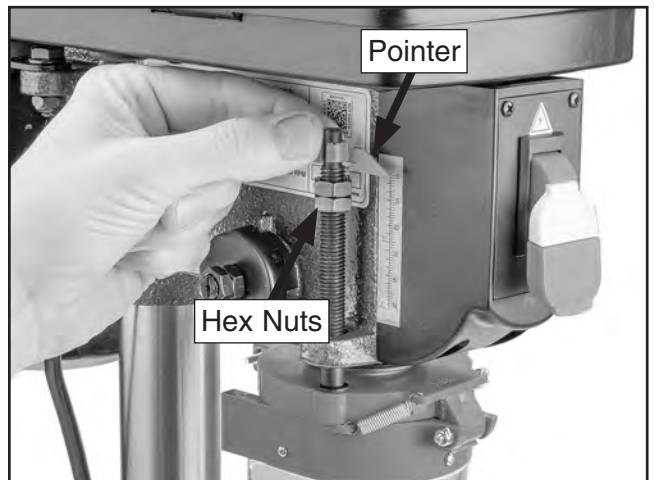

Figure 8. Attaching pointer to depth rod.
11. Thread (2) M10-1.5 hex nuts from **Step 7** onto depth rod, and snap on pointer so it points at zero (see **Figure 8**).